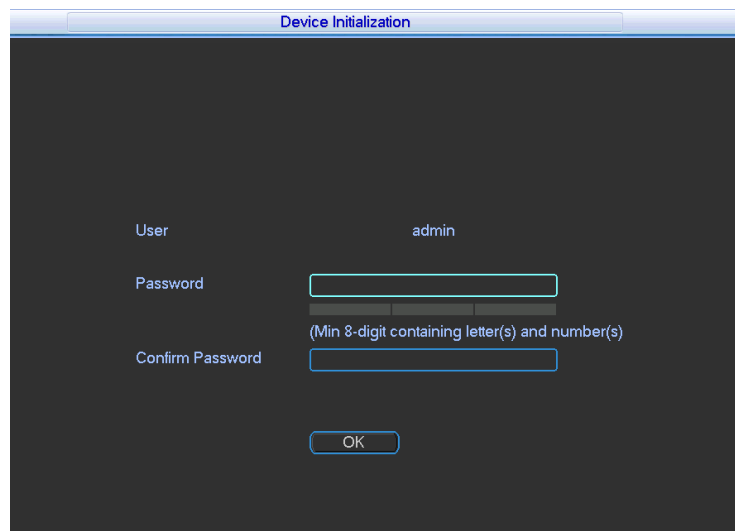

Figure 3-1
Step 1 After you properly turn on the device, the system pops up "Device Initialization" interface, as shown in Figure 3-1.